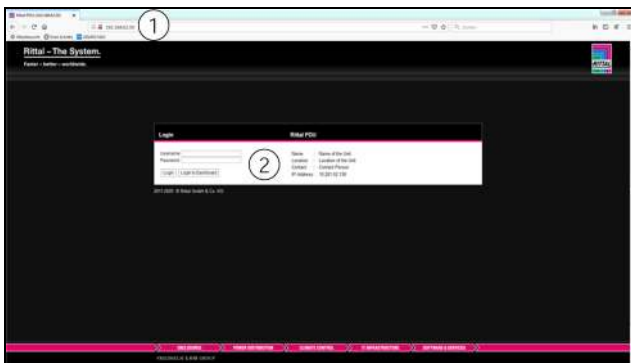

Fig. 35: Login dialogue for login on the device
- Enter the displayed IP address in the browser. In the example, <http://10.201.52.138> (see fig. 35, item 1). The login dialogue for login on the device is displayed.
- Log in with the username **admin** and the password **admin** (fig. 35, item 2).
- In the browser, enter the address **http://192.168.0.200** (fig. 35, item 1). The login dialogue for logging on to the device will be displayed.